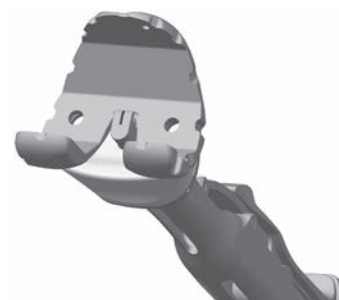

Fig. 70
- Remove any posterior osteophytes or overhanging bone on the femur to facilitate maximum knee flexion. Attach the Femoral Inserter/Extractor to the correct CR Femoral Provisional by inserting the hook on the Femoral Inserter/Extractor arm into the anterior notch in the CR Femoral Provisional and close the handle on the Femoral Inserter/Extractor to secure the CR Femoral Provisional (**Fig. 70**).